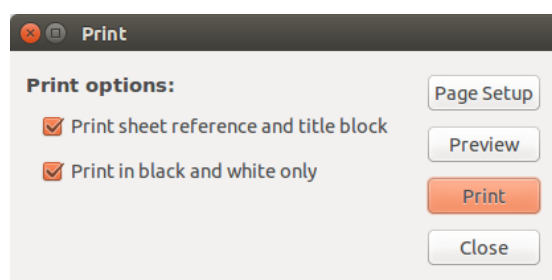

Figure 5.2: Print options
- (h) Print - Access to print menu (See Fig. 5.2).